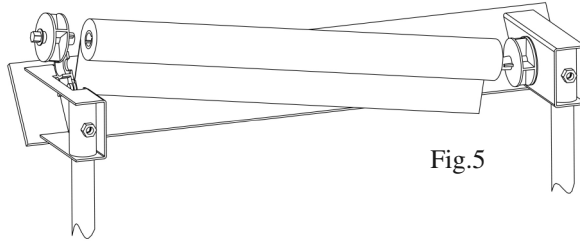

Fig.5
- Slide the roller stud into the slot in the top of the upper target roller assembly so that the headed hex bolt is just behind the side wall of the assembly. (See Fig.5)